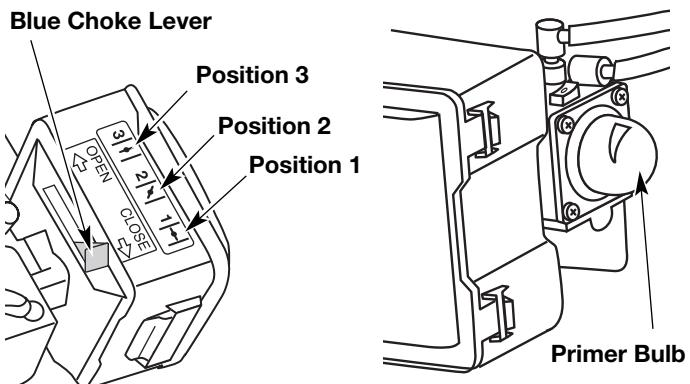

Fig. 11
4. Place the blue choke lever in Position **1** (Fig. 11).
5. Fully press and release the primer bulb 10 times, slowly. Some amount of **fuel should be visible in the primer bulb** and fuel lines (Fig. 11). If you can't see fuel in the bulb, press and release the bulb as many times as it takes before you can see fuel in it.